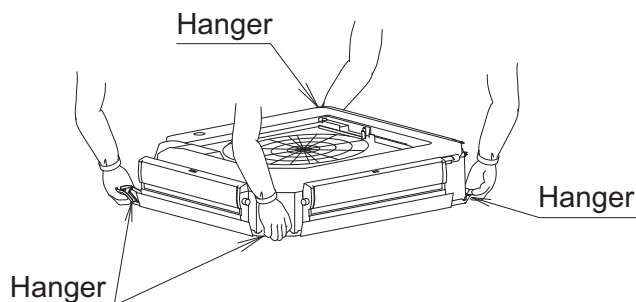

Fig. 9
- When carrying the indoor unit, hold it by the hanging metal fittings. **(Refer to Fig. 9)**